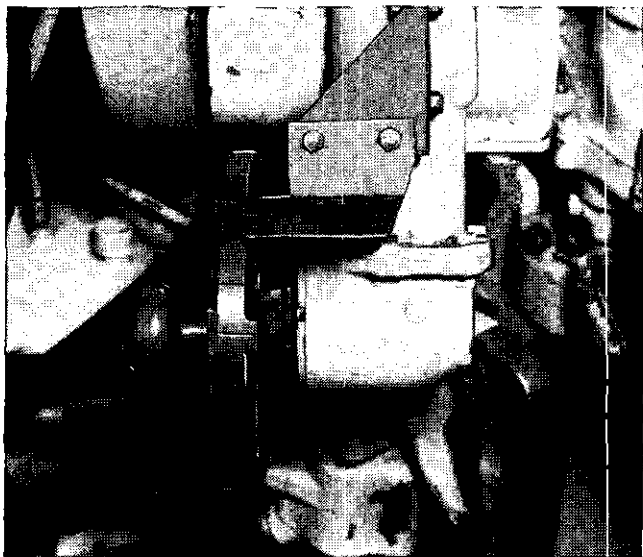

FIGURE 37.—Graduated elevating handwheel, medium tank M4.
b. Graduated elevating handwheel.—Medium tanks M4 are equipped with a graduated elevating handwheel (fig. 37). Each graduation represents a change of 1 mil in the elevation of the gun. The elevating handwheel has 25 one mil graduations.